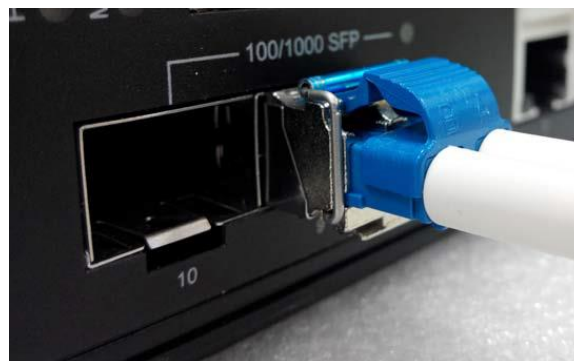

Figure 2.9 - LC Connector to the Transceiver
- **Step 2** - Insert the fiber cable of the LC connector into the transceiver as shown below in *Figure 2.9*.